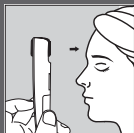

Fig. 2
5. Within one second, the thermometer will beep and the results will appear on the display, Fig. 2. The display will illuminate, indicating if a fever may be present: